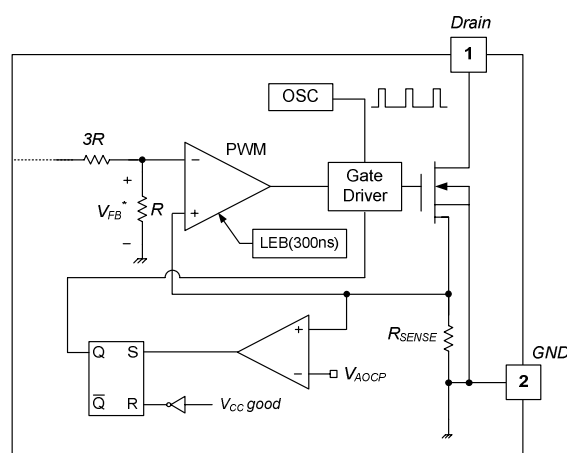

Figure 21. Abnormal Over-Current Protection
**4.2 Abnormal Over-Current Protection (AOCP):** When the secondary rectifier diodes or the transformer pins are shorted, a steep current with extremely high di/dt can flow through the SenseFET during the minimum turn-on time. Even though the FSGM0565R has overload protection, it is not enough to protect the FSGM0565R in that abnormal case; since severe current stress is imposed on the SenseFET until OLP is triggered. The FSGM0565R internal AOCP circuit is shown in Figure 21. When the gate turn-on signal is applied to the power SenseFET, the AOCP block is enabled and monitors the current through the sensing resistor. The voltage across the resistor is compared with a preset AOCP level. If the sensing resistor voltage is greater than the AOCP level, the set signal is applied to the S-R latch, resulting in the shutdown of the SMPS.